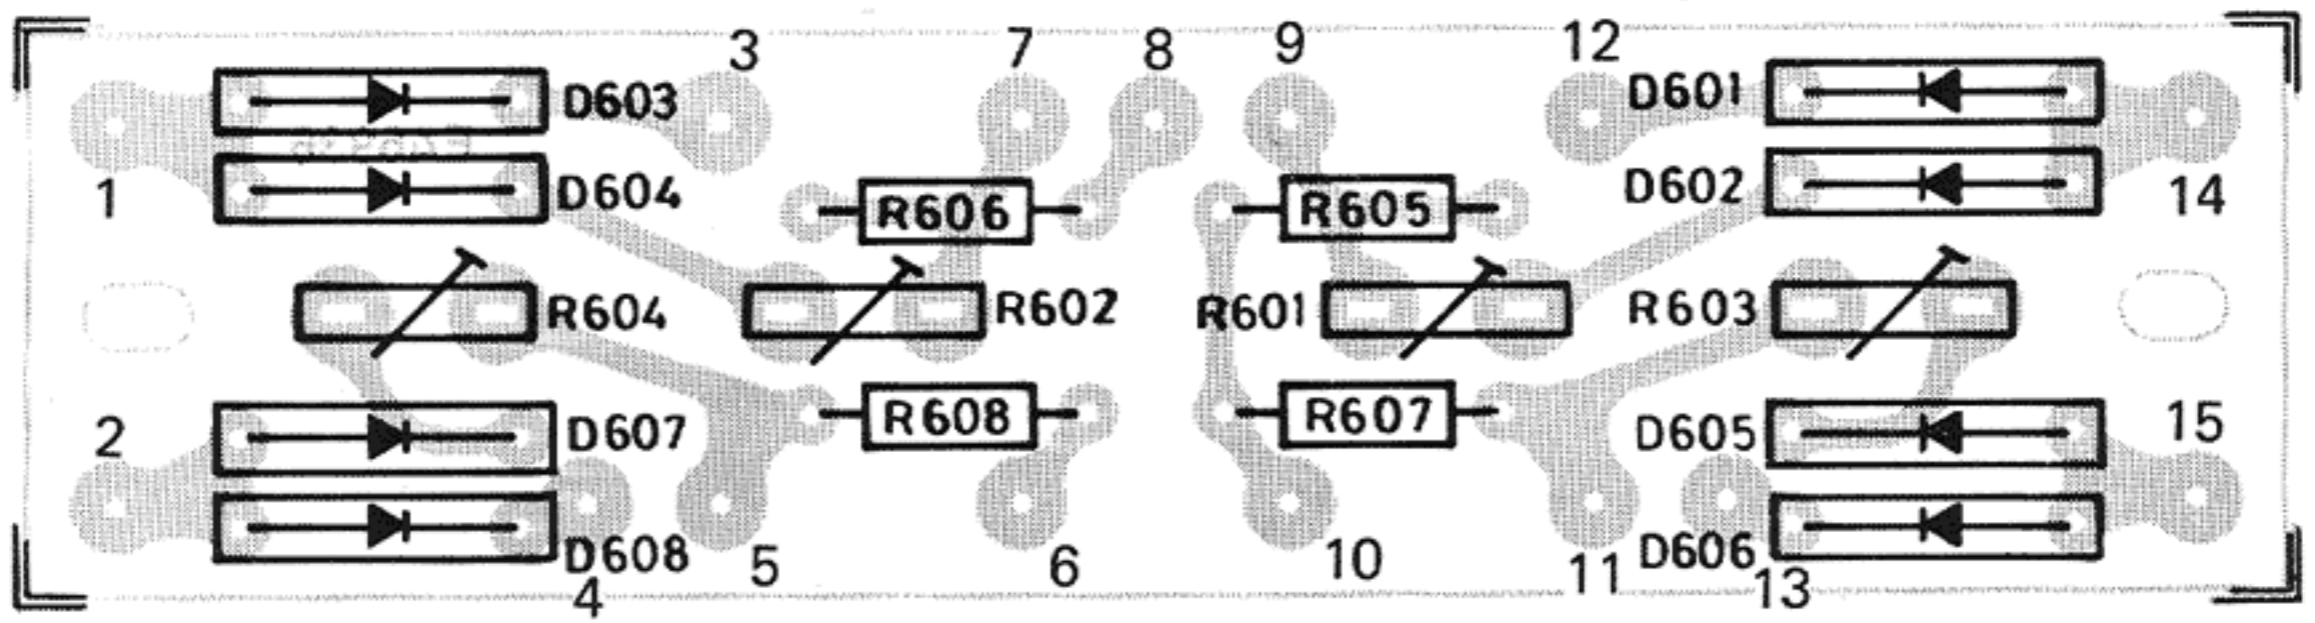

Fig. 26
**WIRE CONNECTION** (Fig. 26, 27)